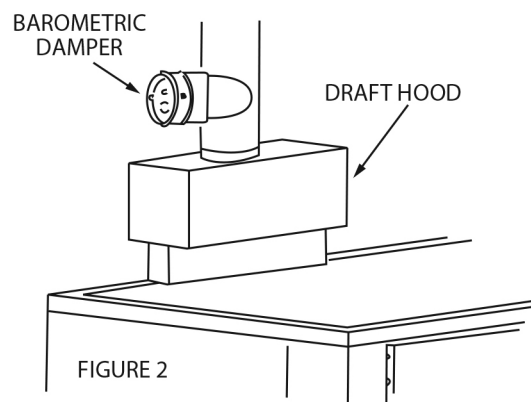

FIGURE 2
2. If the oven must be connected to a direct flue, this flue should rise 10 feet above the roof of the building in which the oven is installed, or 10 feet above any portion of a building within a horizontal distance of 10 feet. The draft hood provided must be installed. In addition, it is necessary that barometric draft control (available from Garland) be installed. (See Fig. 2)